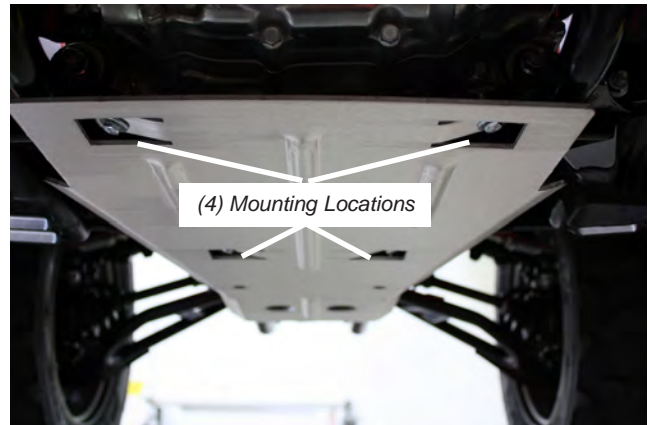

Figure 1
3. Place rear skid plate (A1) into position. Secure with fasteners (B1,B2) in the 4 rear mounting locations. See Figure 1.